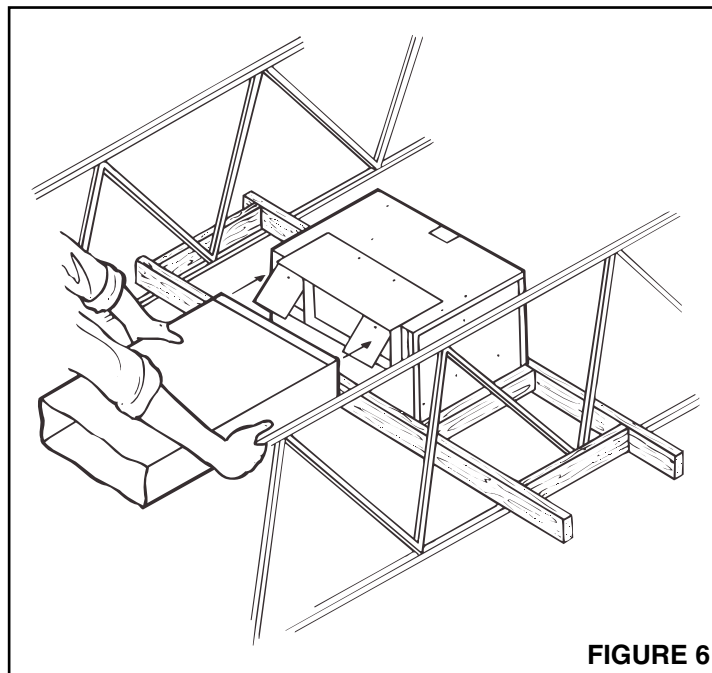

FIGURE 6
1. Refer to **Figure 6**. Connect the ductwork to damper/duct connector. Tape all joints with duct tape.